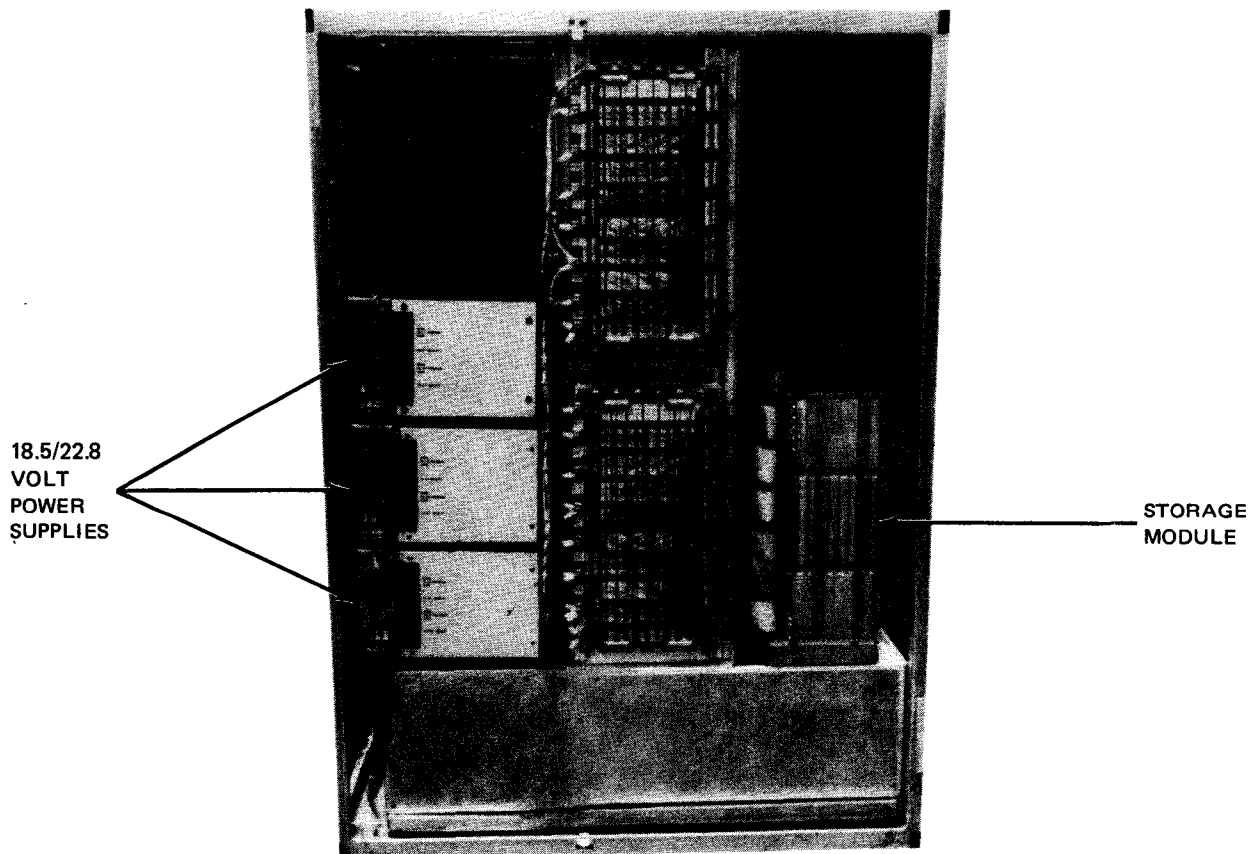

Figure 3-17. Storage Expansion Cabinet Type 7024-02/03, Rear View (Doors Open)
At the rear of the cabinet, the operator controls (Figure 3-17) are located on one, two, or three identical 18.5/22.8-volt power supplies. (The number of power number supplies is determined by the number of storage modules.) Controls and indicators are also located on the storage modules, but these controls and indicators are used by maintenance personnel only. The controls for a typical 18.5/22.8-volt power supply are illustrated in Figure 3-18 and described in Table 3-11.
- e. At rear of cabinet (Figure 3-17), open hinged doors to gain access to internally located circuit breakers.